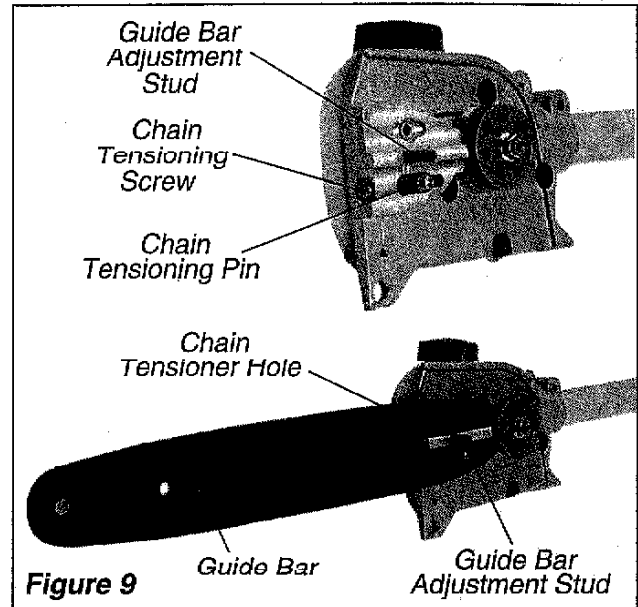

Figure 9
2. Place the guide bar over the guide bar adjustment stud on the cutting head assembly. Align the chain tensioning pin with the hole in the guide bar. See Figure 9.